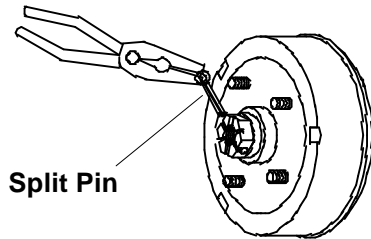

Figure: 4.9.2
- b) Straighten and remove the split pin from the axle nut. (See Figure 4-9.2).